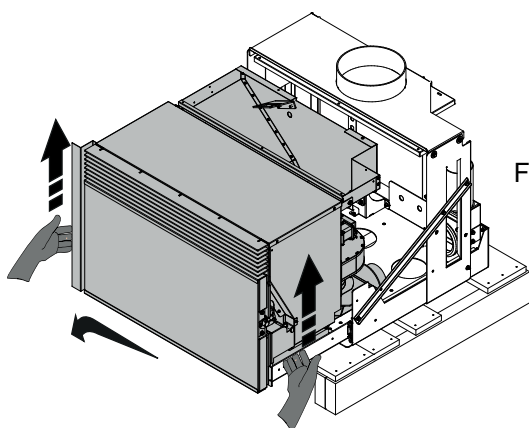

Fig. 6.1.5
10. Lift the machine and remove it from the guides (Fig. 6.1.5);